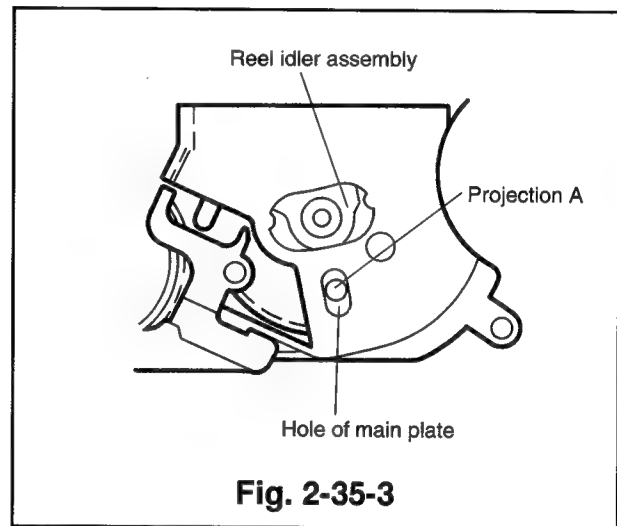

Fig. 2-35-3
- ① Insert the part B of the reel idler assembly under the plate cam B as shown in Fig. 2-35-1 and insure projection A enters the hole on the main plate. Position the reel idler assembly so that its screw holes are aligned and secure it with the two screws (a) and (b). (Fig. 2-35-3 shows its appearance, viewing from the top.)
- ② Install the belt pulley and the reel belt. (Refer to Para. 2-28 for the installation method.)